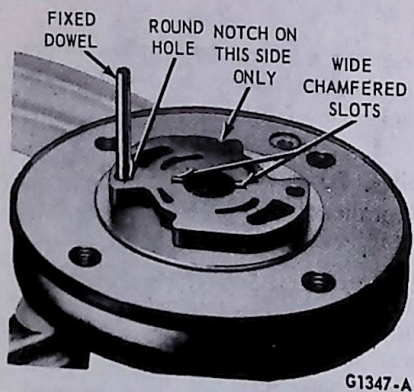

FIG. 13 Lower Pressure Plate Installed
2. Insert the lower pressure plate on the anchor pin with the wide chamfered slots at the center hole facing up (Fig. 13).